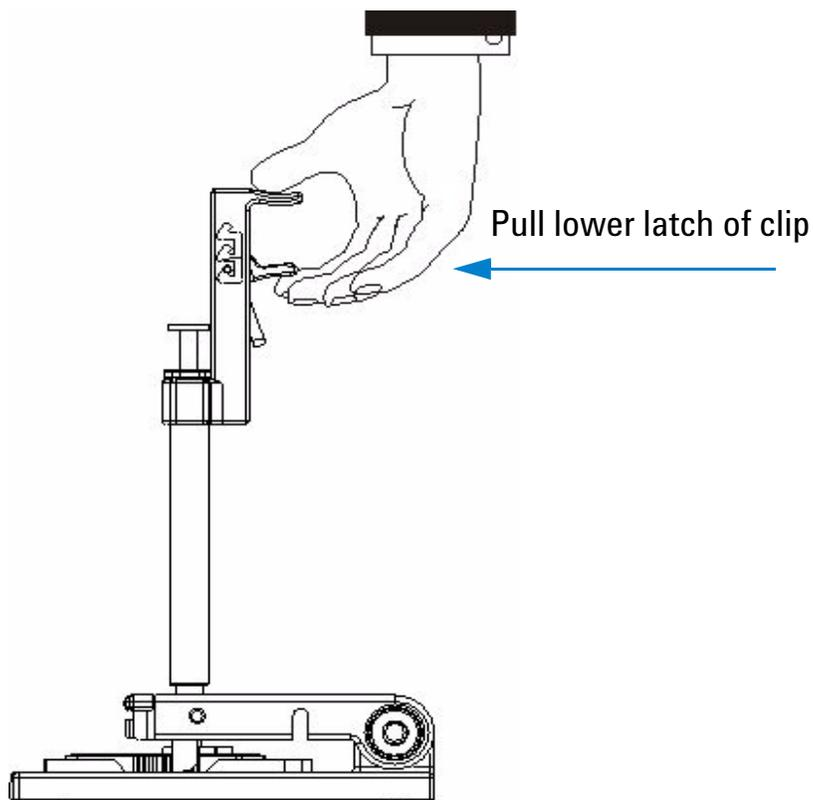

Figure 15 Releasing the Plunger of the Syringe
- 6 Wait for 5 seconds and press the side of the clip to release the plunger as shown in Figure 15, “Releasing the Plunger of the Syringe”.